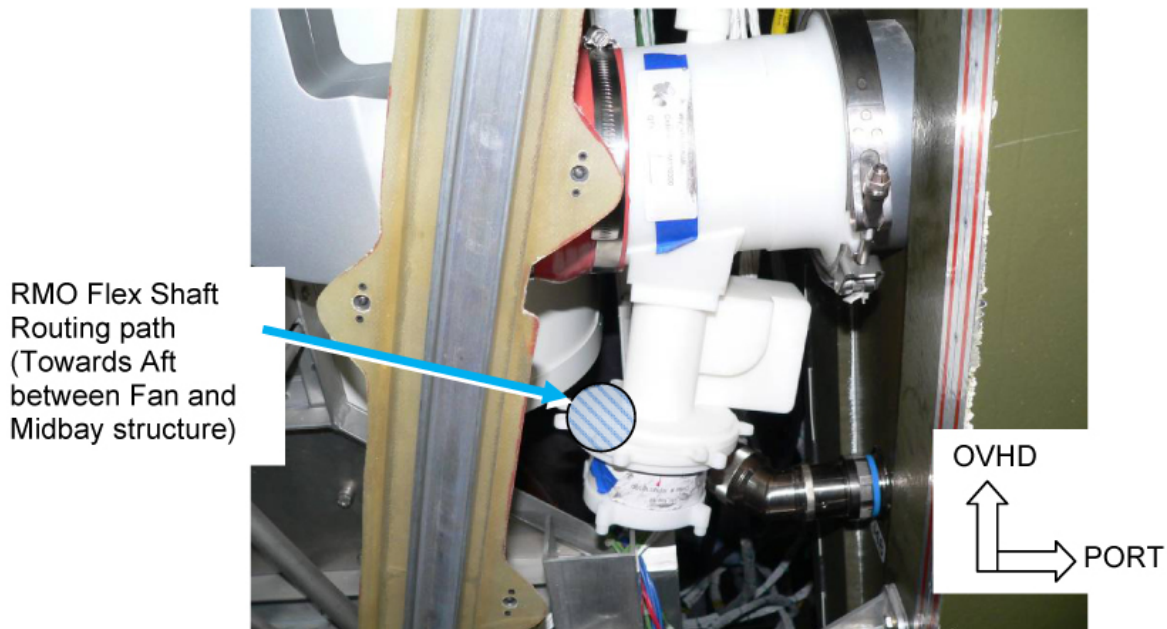

Figure 9. IMV Valve Installed on Node 1 Port Bulkhead (Mockup in B9).
- 2.11 Align IMV Valve on Node 1 Port-Aft Bulkhead with mechanism housing and electronics assembly oriented slightly forward (12 degrees) of nadir. Minimize rubbing Teflon seals on Bulkhead. Refer to Figure 9.
- 2.12 RMO Flex Shaft will be routed between Node 1 Cabin Fan and Midbay structure. Rotate RMO Flex Shaft Interface to align with RMO Flex Shaft routing path: slightly starboard (11 degrees) of aft. Refer to Figure 9.